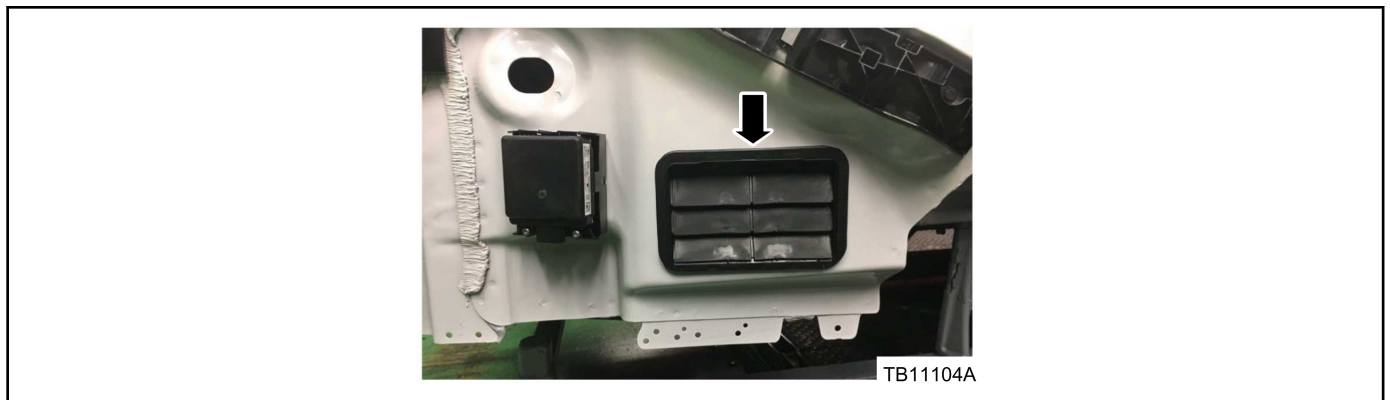

Figure 36 - Article 17-0044
- a. Replace the air extractor if it is warped or damaged or flaps do not lay flush to their sealing surface. (Figure 36)